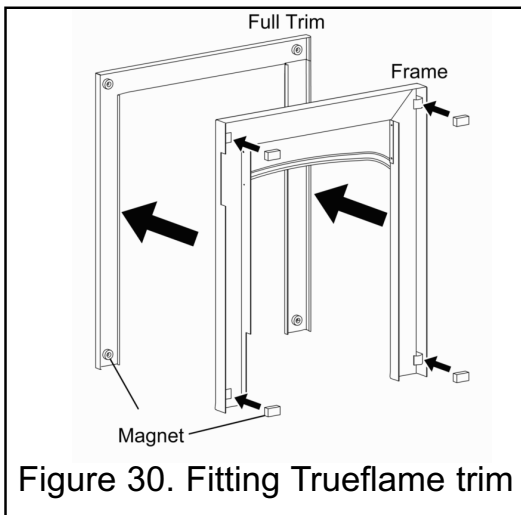

Figure 30. Fitting Trueflame trim
i) Place 4 magnets onto the frame so they are located on top of the magnet brackets as shown in figure 30.
- i) Place 4 magnets onto the full trim so that there is one on each side of the trim and two spaced along the top (See figure 30).
- iii) Place 4 magnets onto the frame in the same as in 3a (See figure 30).